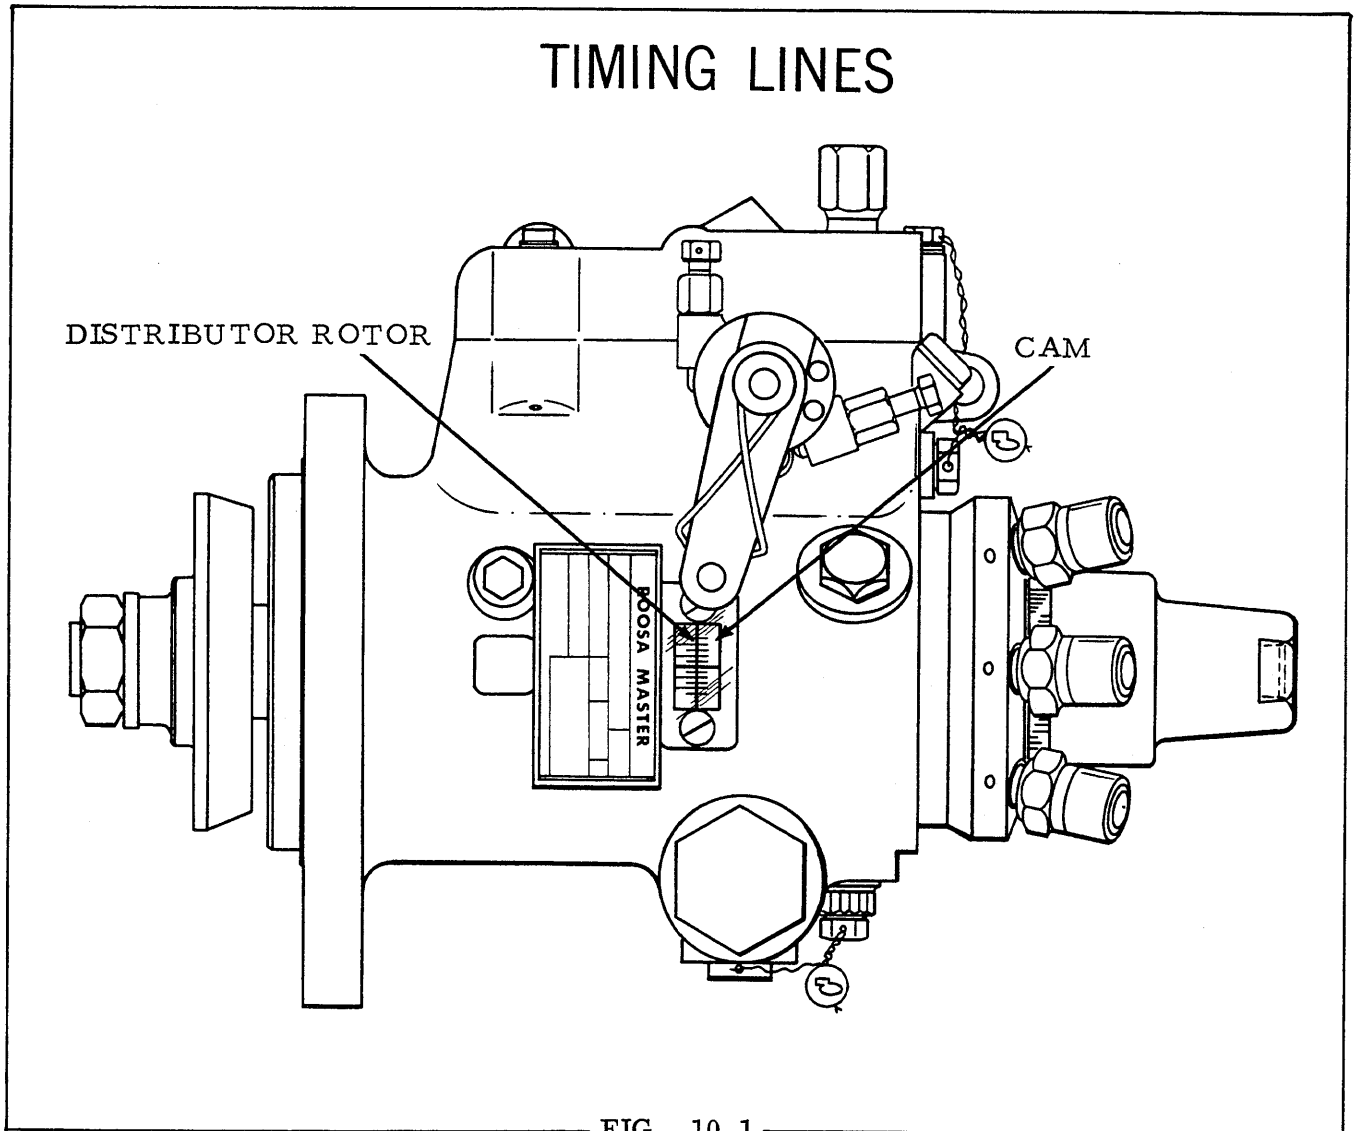

FIG. 10.1
B. Turn pump drive shaft in the direction of pump rotation until the timing line on the Distributor rotor registers with the line on the cam O.D. (Fig. 10.1)